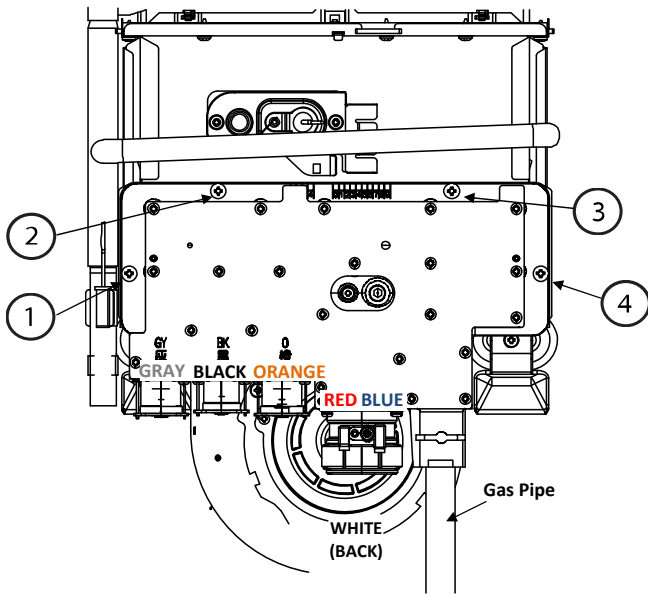
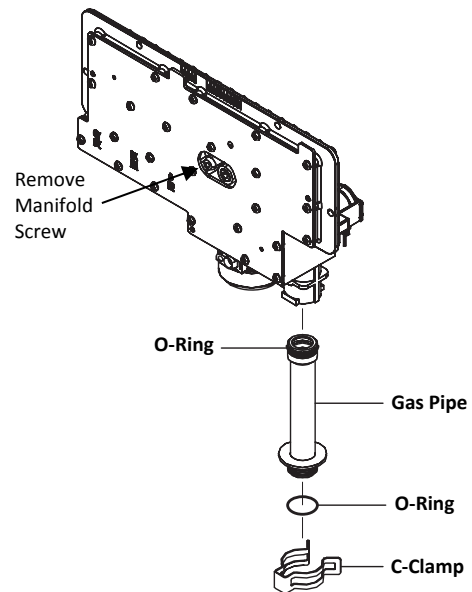

FIGURE 1
FIGURE 2
- 5) Locate the colored wire connectors from the electrical solenoids on the manifold from the locations indicated in Figure 1 on the following page. Follow the wires to a white clip and disconnect it. Disconnect the gas pipe from the gas supply inlet by removing the C-Clamp at the bottom of the gas pipe (Figure 2). For easier access remove the mounting plate with the current leakage safety device in front of the gas pipe.
- 6) Then locate and remove the 4 screws with a Philips screwdriver (Figure 1). Do NOT use a power drill. Once screws are removed, pull the gas pipe from the gas fitting. When the pipe and manifold have been detached, remove the gas pipe from the manifold inlet. **Remember to remove the manifold screw. This will be used on the new manifold plate.** Discard the original manifold plate.
- 8) Locate the black O-rings on the gas pipe as indicated in Figure 2 & 4. If torn or damaged, remove and replace O-rings with the new O-rings supplied in the conversion kit. Discard the old O-rings.
- 13) Secure the new manifold plate to the unit using the screws removed in Step 7. The screws need only to be hand tightened and should not be tightened using a drill. First, insert screws 1-4 from Figure 1, but do not fully tighten these screws. Once all screws are inserted, proceed to completely tighten screws 1-4.
- 14) Attach C-Clamp at the bottom of the gas pipe (Figure 2). **Failure to do so will cause gas leaks, possibly resulting in severe personal injury or death.**
- 15) Reconnect the white clip that contains the wires to the electrical solenoids on the manifold from the locations indicated in Figure 1.